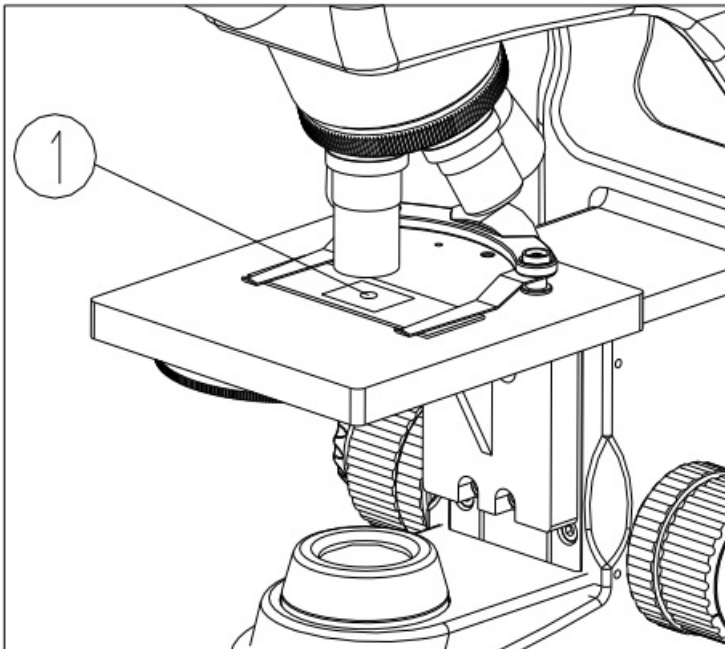

Fig. 12
2. Place a drop of oil ① on the specimen observed (see **Fig. 12**)